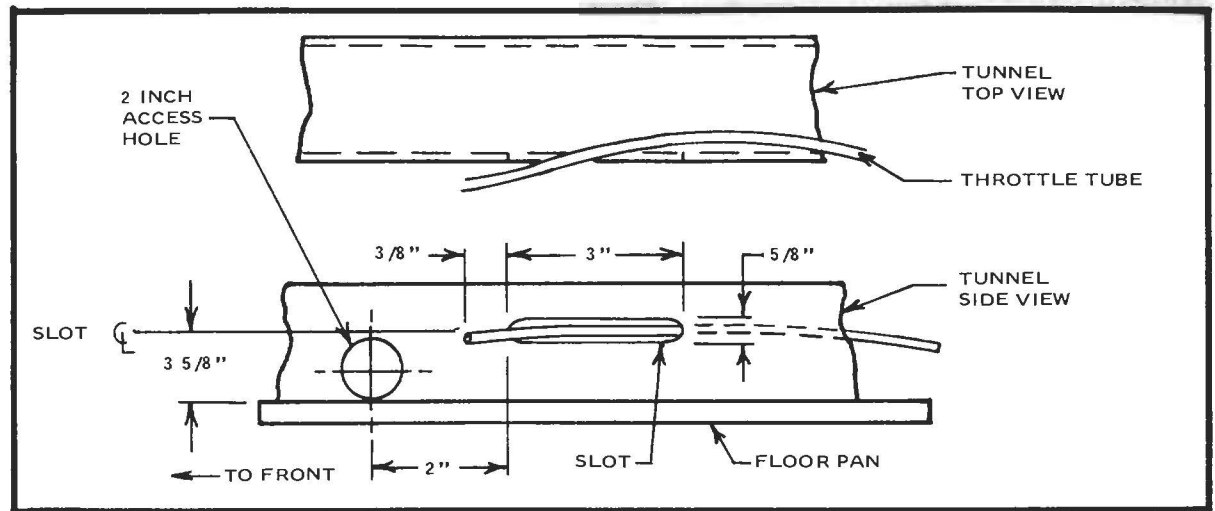

Figure 7
- ☐ On the left side of the tunnel, measure back 2" from the center of the 2" hole and 3 5/8" up from the floor pan and make a mark. Starting at this point, cut a slot 3" long by 5/8" wide towards the rear of the car. (Refer to Figure 7)